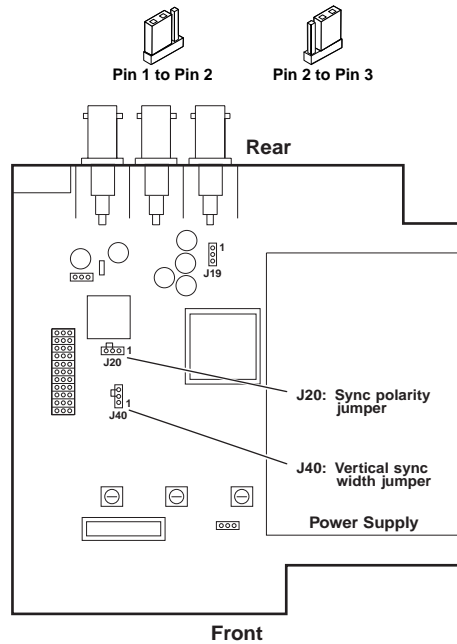

Figure 2-19 — Circuit board jumper locations
3. Note the positions of jumpers J20 and J40 before changing jumper settings. Figure 2-19 shows the locations of the J20 and J40 jumpers and the two possible setting combinations for 3-pin jumpers.